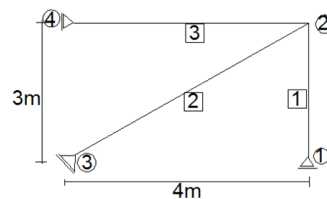

Figure 2
2. (a) If the member 2 of framed structure shown in Figure.2 is shortened by 0.01 m, Determine the force in members .Assume $AE = 8 \times 10^6$ N. [7M]